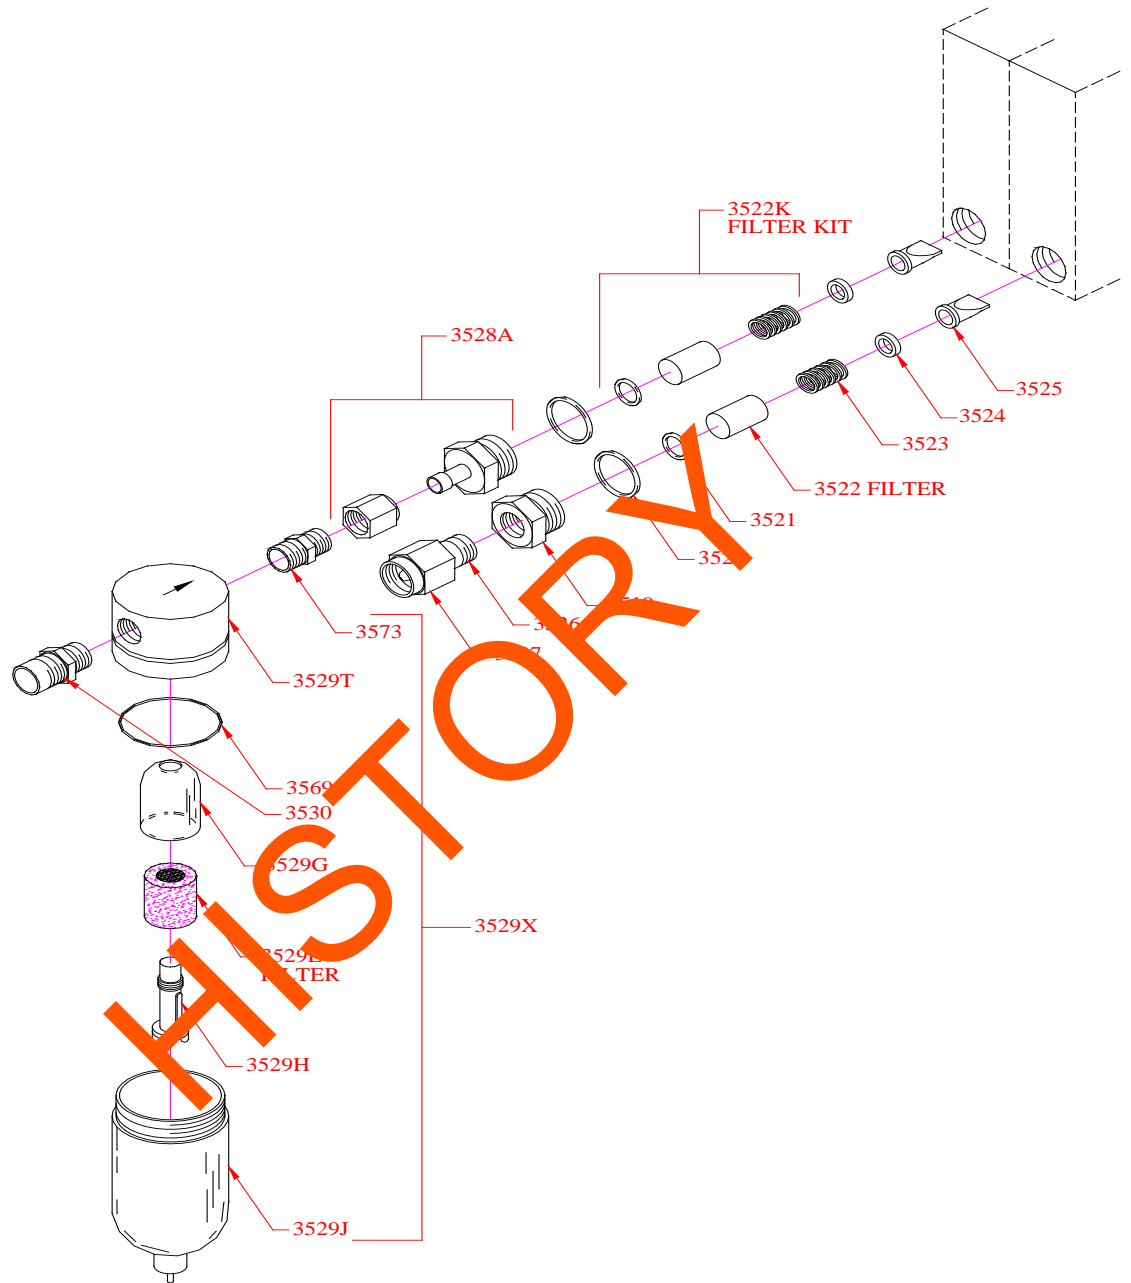

Figure 4
- Periodically replace the air water trap/inlet filter (P/N 3529E in Figure 4) at least every 6 months or as needed.